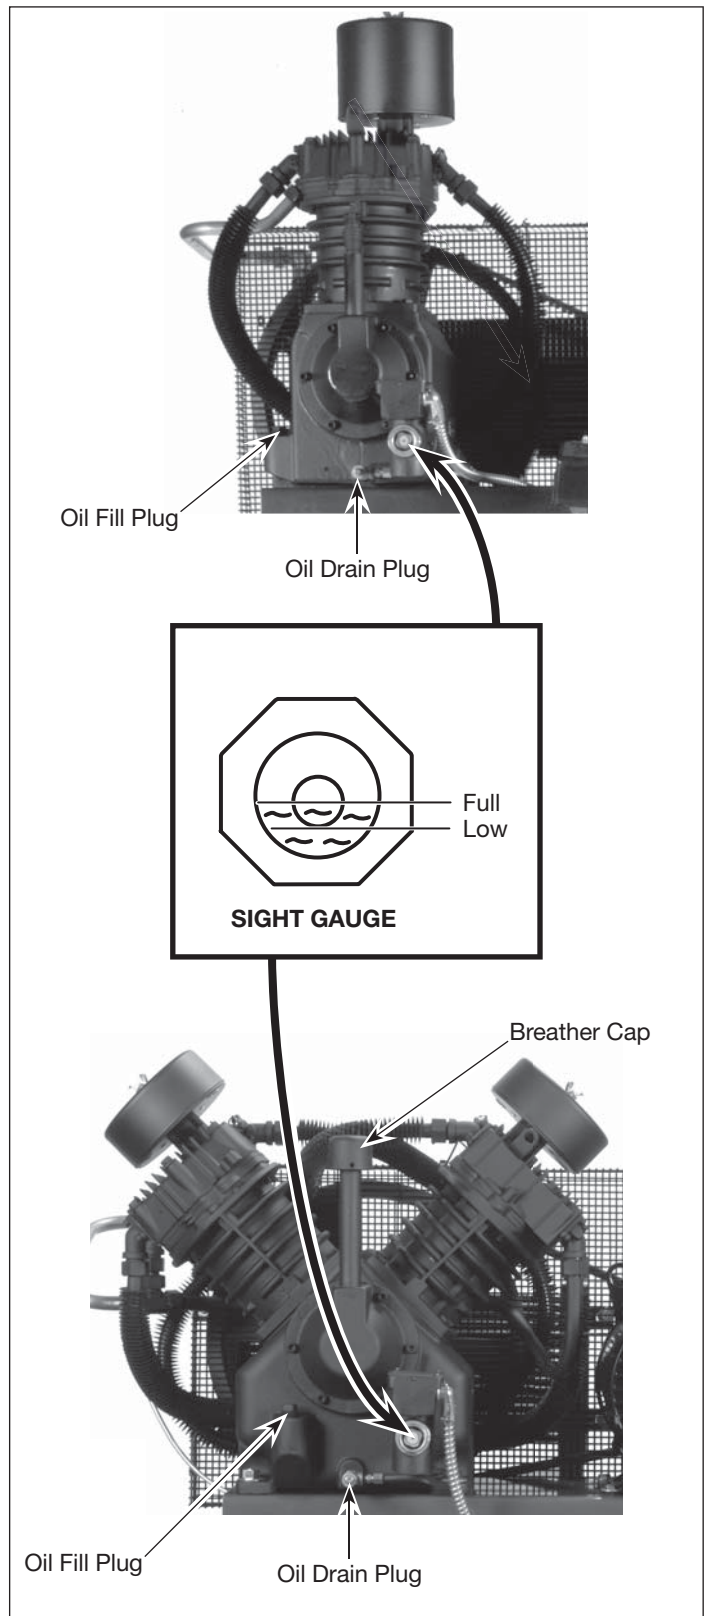

Figure 7
**⚠ CAUTION** *THIS UNIT CONTAINS NO OIL. Before operating compressor, fill to the center of the sight gauge (see Figure 7).*
Fill the pump with oil to the center of the sight gauge using oil fill opening (see Figure 7). **Do NOT fill the pump through the breather cap opening as this may cause oil to leak and spray out during operation.**